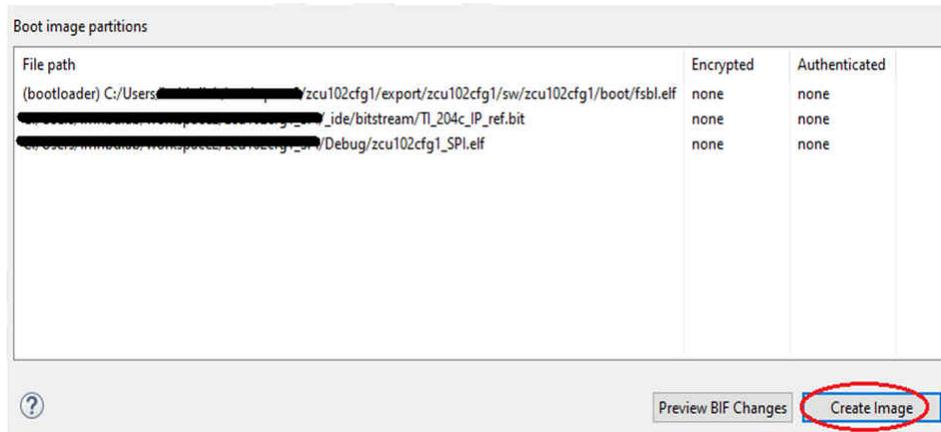

Figure 13-3. Boot Image Partitions
3. After reviewing the locations of the boot elf file, FPGA bit file, and application elf, click *Create Image* (see Figure 13-3).